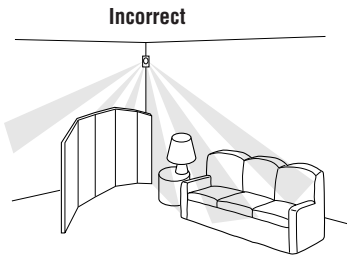

Figure 1. Wall mounted PIRs are more susceptible to blockage by partitions and shelving.
- INSTALLATION** Position the PIR in a location where partitions will not block the PIR's coverage patterns (see Figure 1).